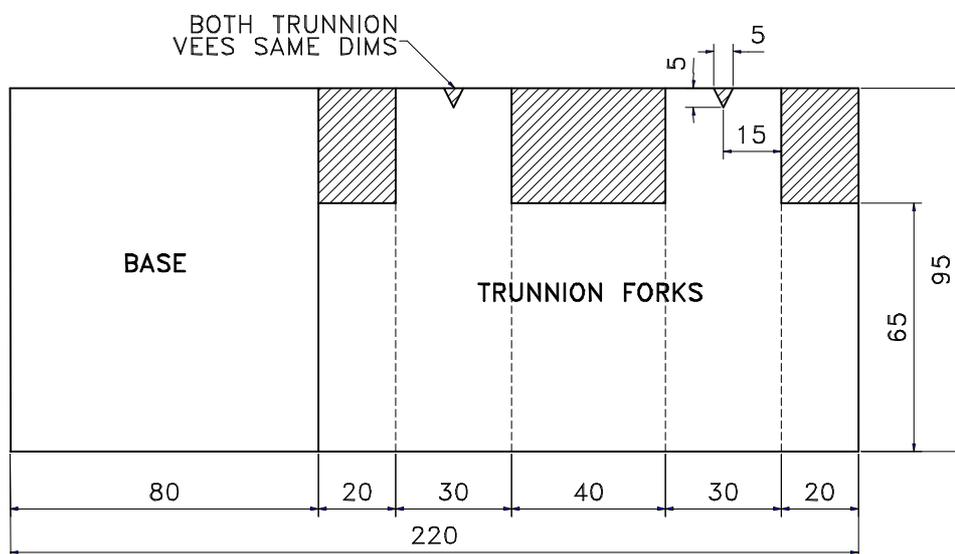

Figure 2.1. Pattern for Engine Stator – solid lines are cuts, dashed lines are folds, hatched areas are wastage.
- Cut out cardboard base and trunnion forks as shown in Figure 2.1. Don't forget to cut out the trunnion vees.